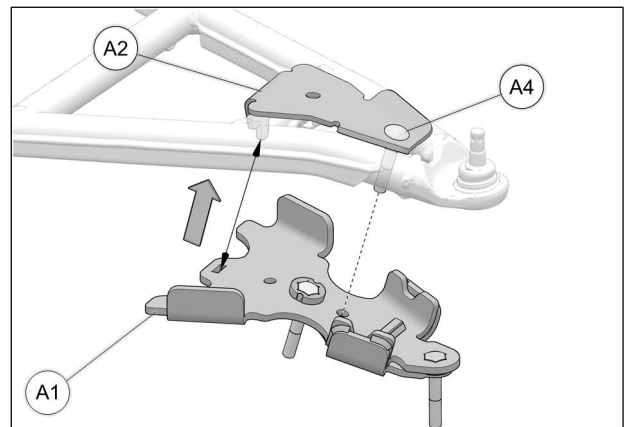

Fig. 14
6. Position bottom part of anchor bracket assembly (A1) under lower suspension arm. Pull bracket (A1) up over bolt (A4) already installed in cover (A2). Make sure tenon is well inserted in mortise. Refer to Fig. 14